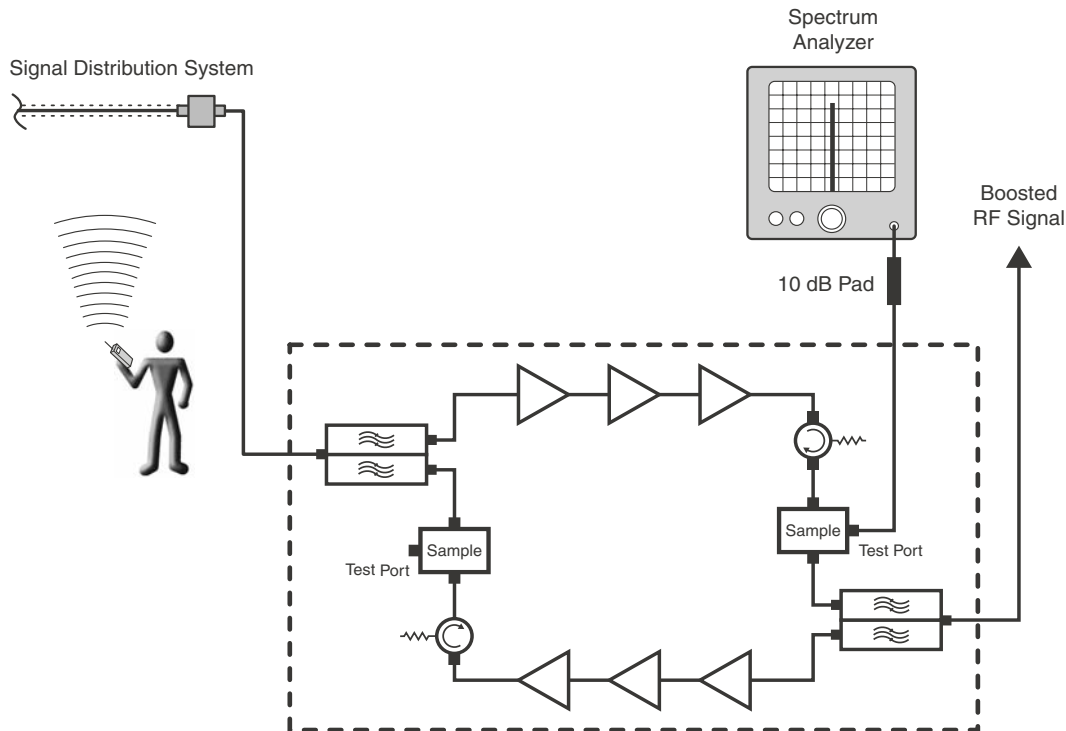

Figure 9: Methodology for doing a performance survey of the signal distribution system.
- 3) With a spectrum analyzer connected to the signal sampler port (see **Figure 9**), have personnel with handheld radios move to several